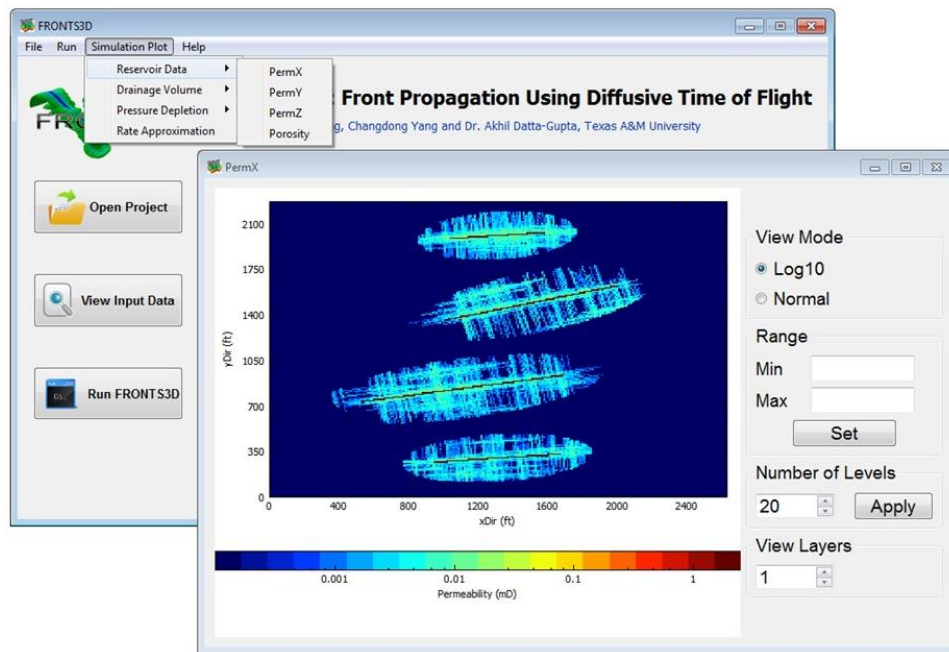

Figure 7. Select and View Initial Reservoir Data
- a. Click Simulation Plot → Reservoir Data, you can view initial data plots in the reservoir such as permeability and porosity. (**Figure 7**).